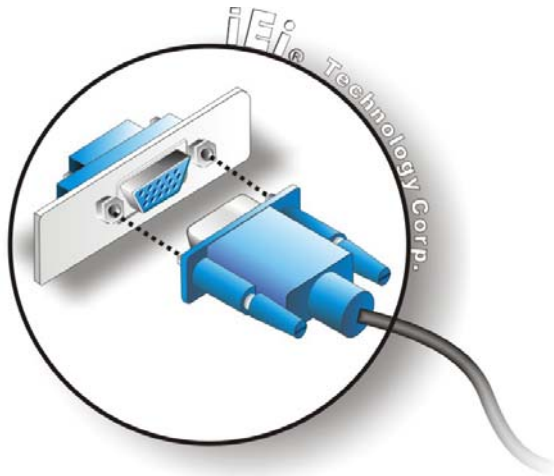

Figure 4-14: VGA Connector
- Step 3:** **Insert the VGA connector** Once the connectors are properly aligned with the insert the male connector from the VGA screen into the female connector on the PCISA-PV-D4251/N4551/D5251. See **Figure 4-14**.